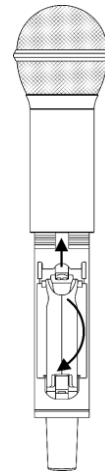

Fig. 07
- 02) Pull upwards on the holding pin and, at the same time, pull the battery holder down, in order to gain access to the battery housing (Fig. 07).